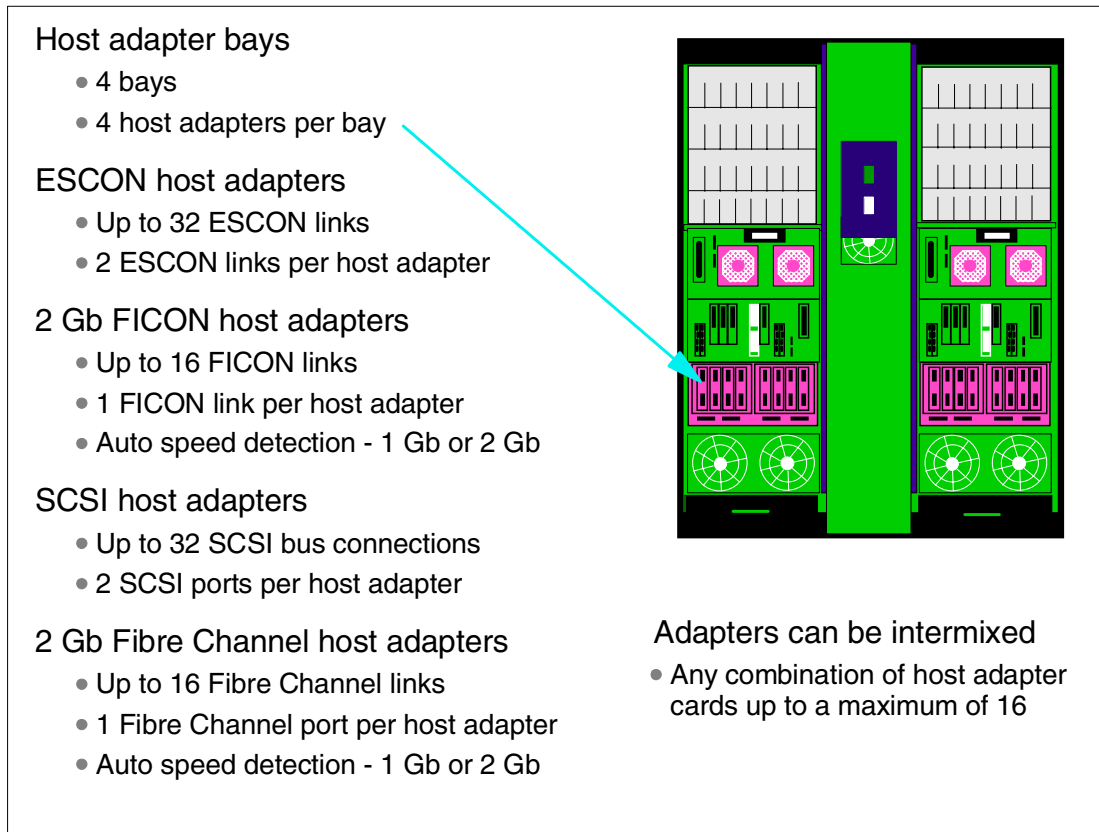

Figure 2-10 ESS Model 800 host adapters
The IBM TotalStorage Enterprise Storage Server has four host adapter (HA) bays, two in each cluster. Each bay supports up to four host adapter cards. Each of these host adapter cards can be for FICON, ESCON, SCSI, or Fibre Channel server connection. Figure 2-10 lists the main characteristics of the ESS host adapters.